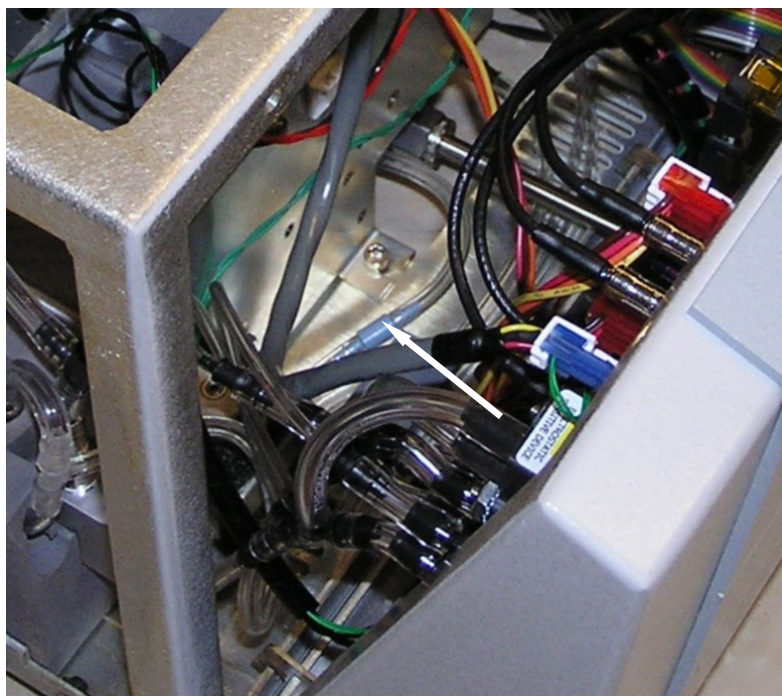

Figure 8-7
4. Find the filter shown in Figure 8-7.